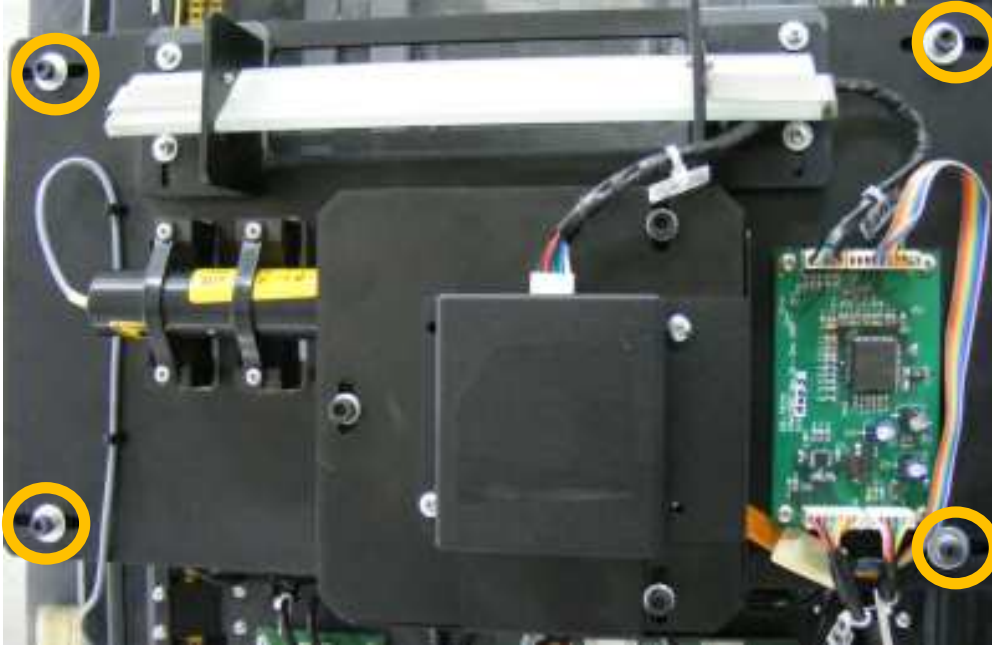

Figure 14-2
- Release the four M5x16 Allen screws (figure 14-2)